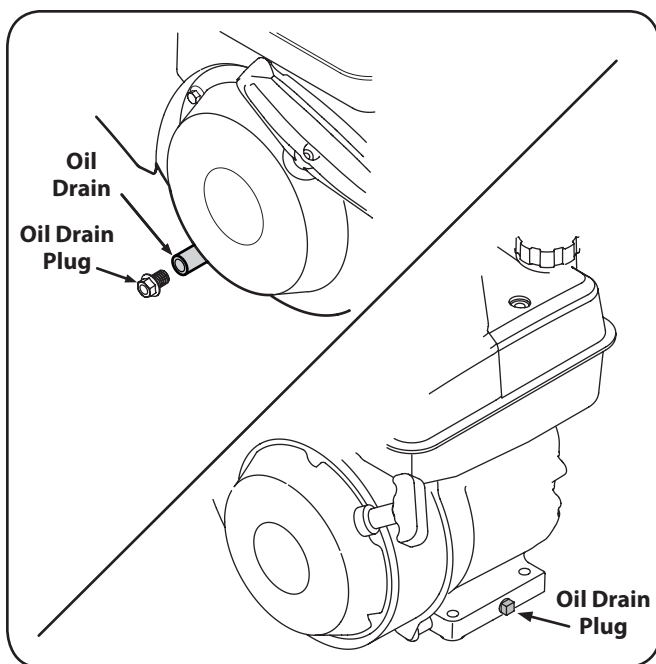

Figure 6-2
3. Be sure to find correct oil drain plug location, if present (see the equipment Operator's Manual instructions for additional information). See Fig. 6-2.
6. Remove the Oil drain plug. See Fig. 6-2.